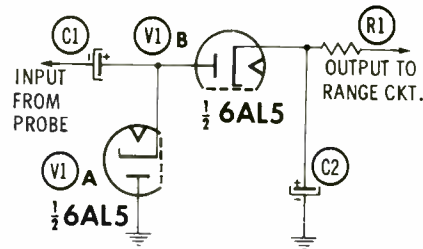

Fig. 3. Dual-diode rectifier used in the measurement of peak-to-peak values. Range circuit following this rectifier is similar to the one in Fig. 2.
**AC VOLTS—**The AC voltage to be measured is rectified and then applied to a voltage divider to develop a DC input voltage for the bridge. Modern VTVM's are capable of indicating peak-to-peak values of almost any waveform—even most sync-circuit waveforms having sharp pulses. Fig. 3 is a schematic of a peak-to-peak rectifier circuit, drawn so that you can immediately identify it as a half-wave voltage doubler similar to those frequently used in the power supplies of TV receivers. During the negative portion of the cycle, V1A conducts and charges C1 to the negative peak value in the polarity shown. Then, during the positive excursion, the charge on C1 and the peak positive voltage add in series and charge C2 through V1B to